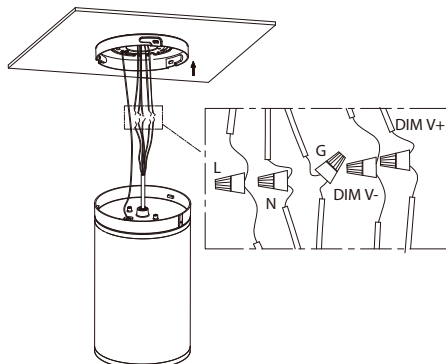

Fig 3
3. Fixed ceiling tray on the ceiling. Put on the safety rope. Connect the wire. (Fig 3)